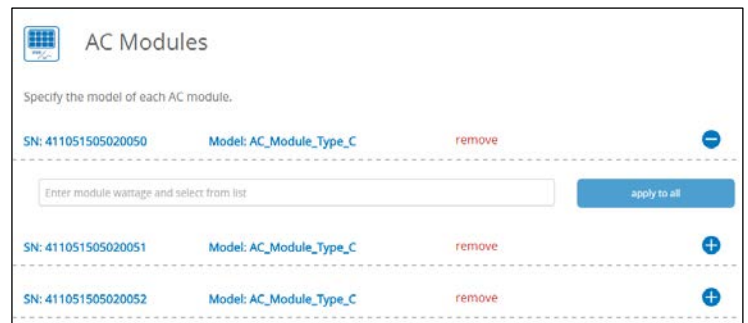

Fig. 38
1. In the search field, type the wattage value of the AC module you installed (for example, 350) and then select the correct value from the list (Fig. 38).
2. Click **apply to all** if all modules are the same wattage or enter each module wattage and select the model (Fig. 38).